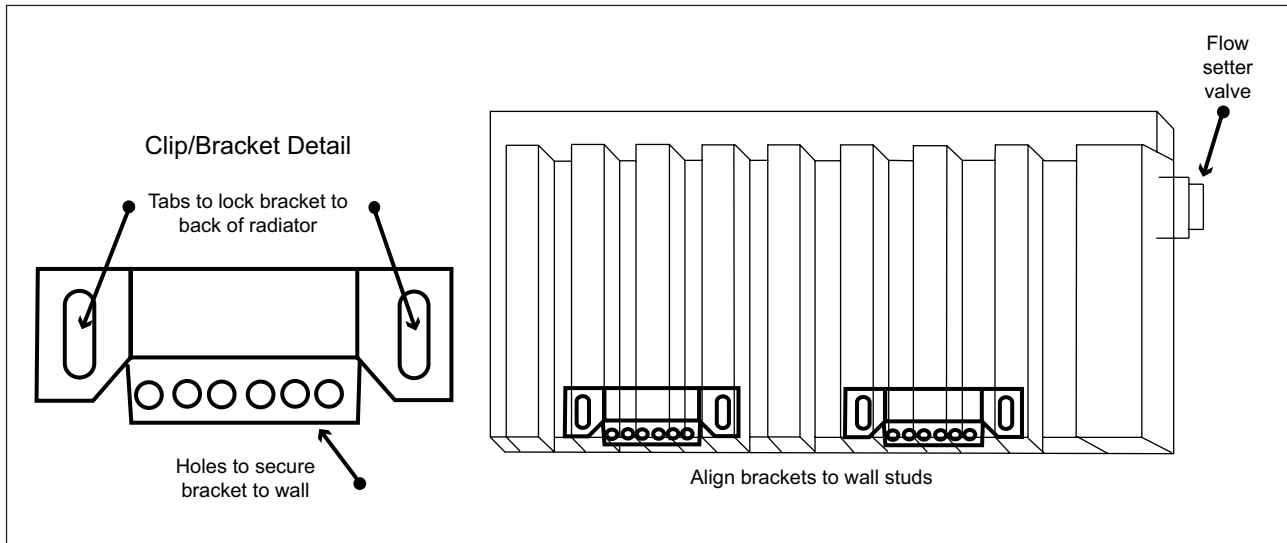

Fig. 5 Rear of Model 11 Buderus Panel Radiator
- Place two clips/brackets on the bottom of the convector fins aligned with stud markings. (Fig. 5)